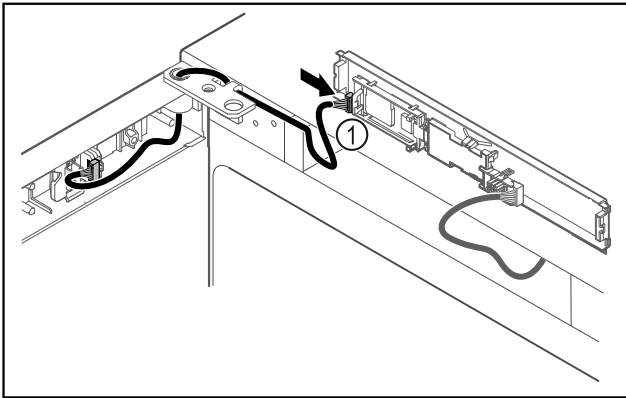

Fig. 49
- ▶ Connect the plug *Fig. 49 (1)* to the circuit board.